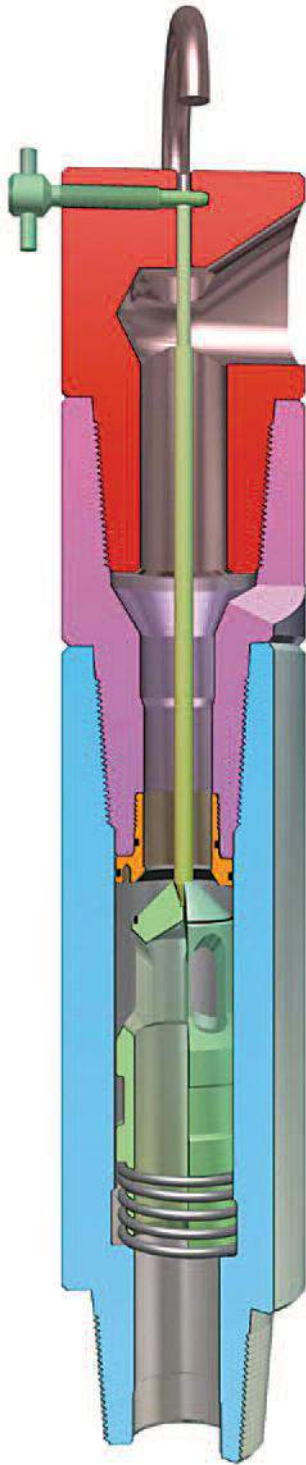

Figure 1 – Inside BOP
- › **SHELL TESTING** during which the valve is pressurized to the test pressure for 3 minutes, then depressurized and pressurized again for at least 10 minutes (see figures 1 & 2).
- › **SEAT TESTING** during which the valve is pressurized from the pin end to its working pressure for at least 5 minutes (see figures 1 & 2).